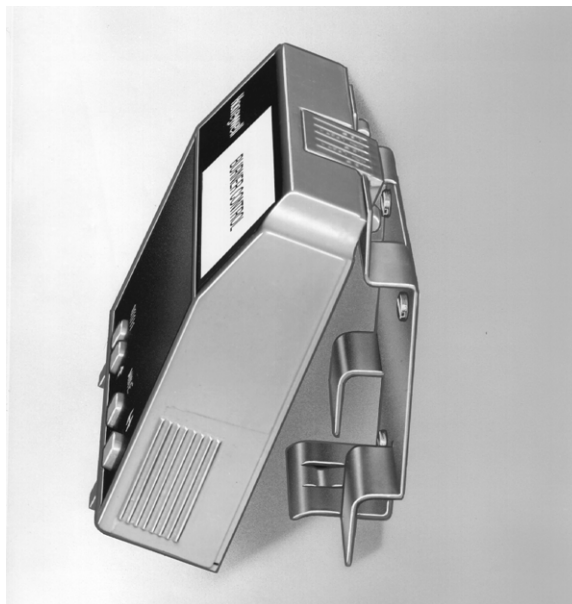

Fig. 4. Remote mounting of a keyboard display module using a 203765 Remote Display Mounting Bracket.
3. Mount the 203765 Remote Display Mounting Bracket by securing the four no. 6 screws (M3.5 x 0.6). See Fig. 4.